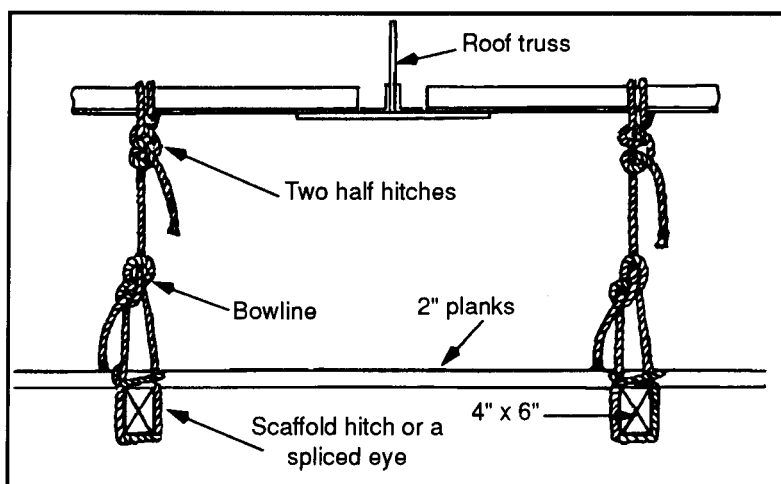

Figure 6-4. Needle-beam scaffold
*Figure 6-4*). A scaffold hitch is used in the rope supporting the needle beams to prevent them from rolling or turning over (see *Figure 2-28, page 2-20*). The hanging lines are usually of 1 1/4-inch manila rope. The rope is hitched to the needle beam, carried up over a structural beam or other support, and then down again under the needle beam so the latter has a complete loop of rope under it. The rope is then passed over the support again and fastened around itself by two half hitches.